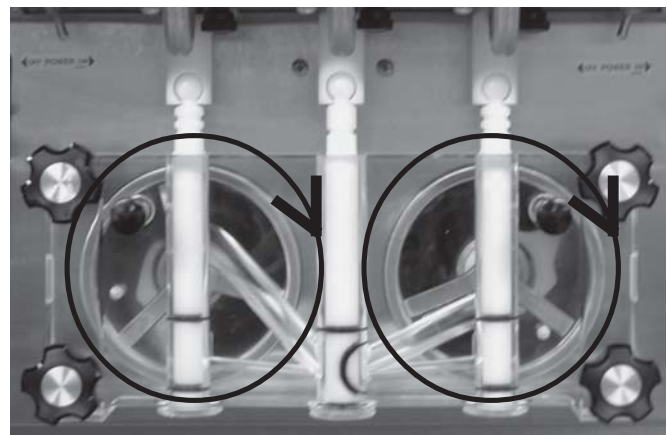

Figure 4. Auger Rotation
- D. Check the auger shaft rotation by placing the Main Freezer Power Switch in the ON position, placing both Freezing Cylinder OFF/ON switches in the ON position and then pressing the Clean Switch on each of the control panels. Auger shaft rotation is clockwise as viewed through the clear plastic front door. If the rotation is not clockwise, turn main electrical power OFF. Then reverse L1 and L3 electrical power lines to the junction box (three phase only). Re-check auger shaft rotation (see Figure 4).